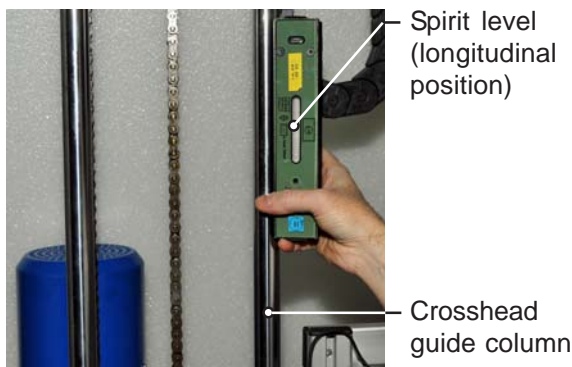

Fig. 1
- ▶ b) Place the spirit level against a guide column (Fig 1). Visually inspect the verticality of the instrument.